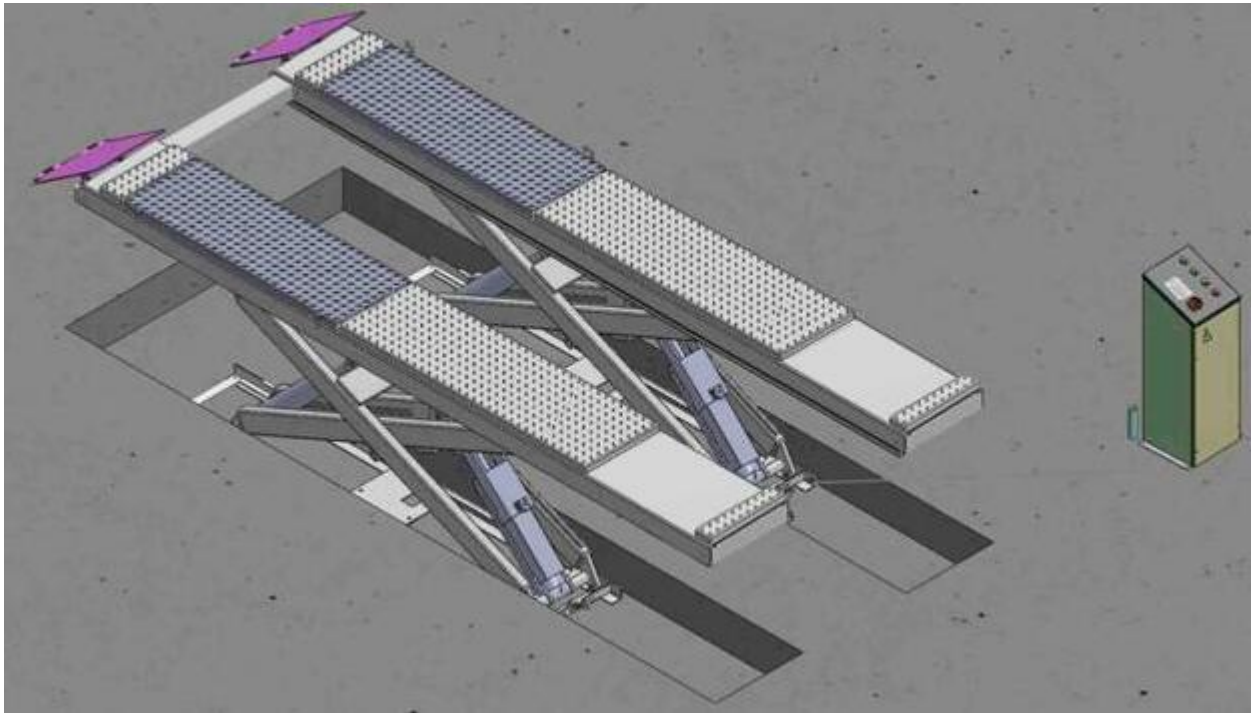

Fig. 9
2.3 Illustration of scissors lift **PX12A** with flush mount installation (**Fig.9**).